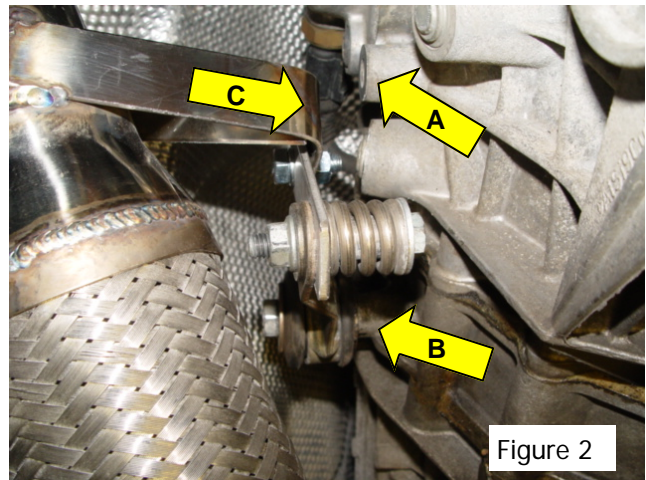

Figure 2
2. On **6 speed cars**, move the OEM downpipe hanger from location at Arrow A in **Figure 2** to the location at Arrow B in **Figure 2**. Install the included adapter plate between the OEM downpipe hanger and downpipe bracket using the enclosed hardware.
4. If the downpipe is not centered, bend the downpipe bracket at Arrow C in **Figure 2** until the downpipe sits correctly in the crossmember cavity.